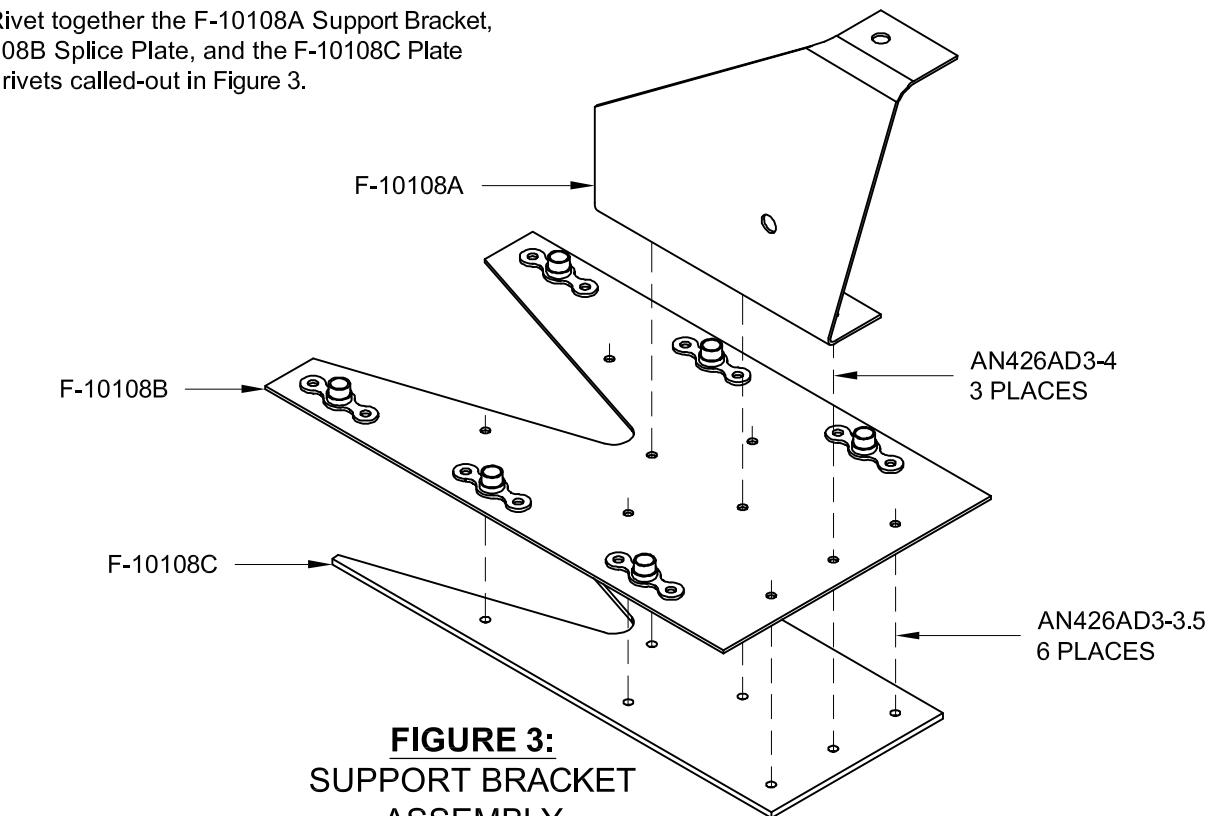

FIGURE 3:
Step 5: Rivet together the F-10108A Support Bracket, the F-10108B Splice Plate, and the F-10108C Plate using the rivets called-out in Figure 3.